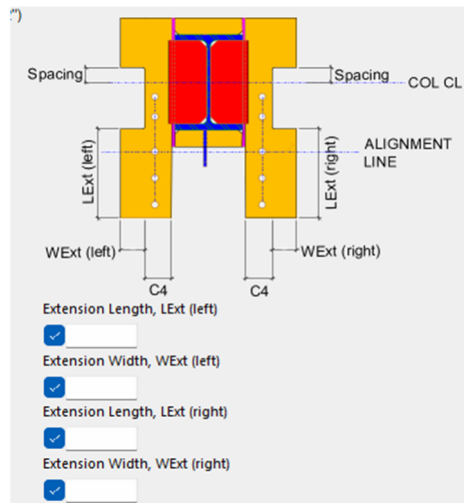

Figure 7-17. R8 Extended External Continuity Plate Option
- To extend the left ECP only part of the length of the plate (see length indicated in Figure 7-17), enter the length in the **LExt (left)**. This will only extend the plate as shown in the figure.